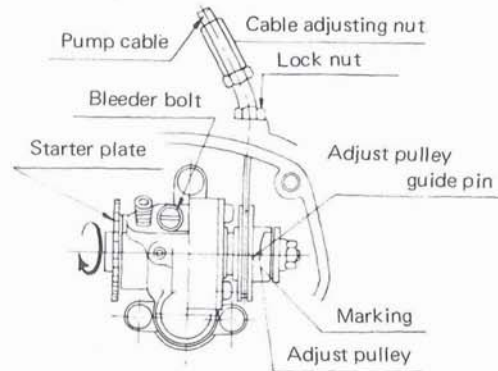
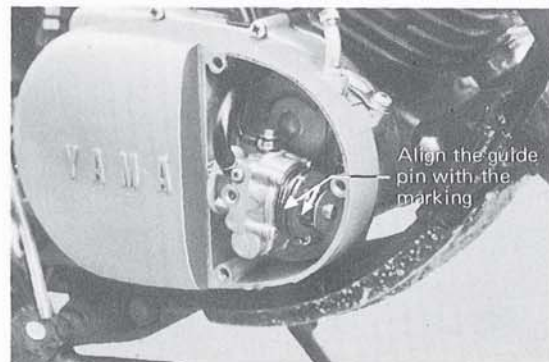

Fig. 2-3-7
Fig. 2-3-8
- a. Adjust the pump cable so that the marking (arrow) on the Autolube pump adjustment pulley is aligned with the guide pin (see Fig. 2-3-8). Begin by fully closing the accelerator grip, then slowly turning it back again so that the slack in the throttle cable is completely taken up. Next, adjust the pump cable so that the marking on the pump adjustment pulley will be aligned with the guide pin, as shown in Fig. 2-3-7. The point of adjustment is at the end of the cable, just before it enters the case. Loosen the lock nut and screw the adjuster in or out, whichever direction is necessary to obtain the correct adjustment.